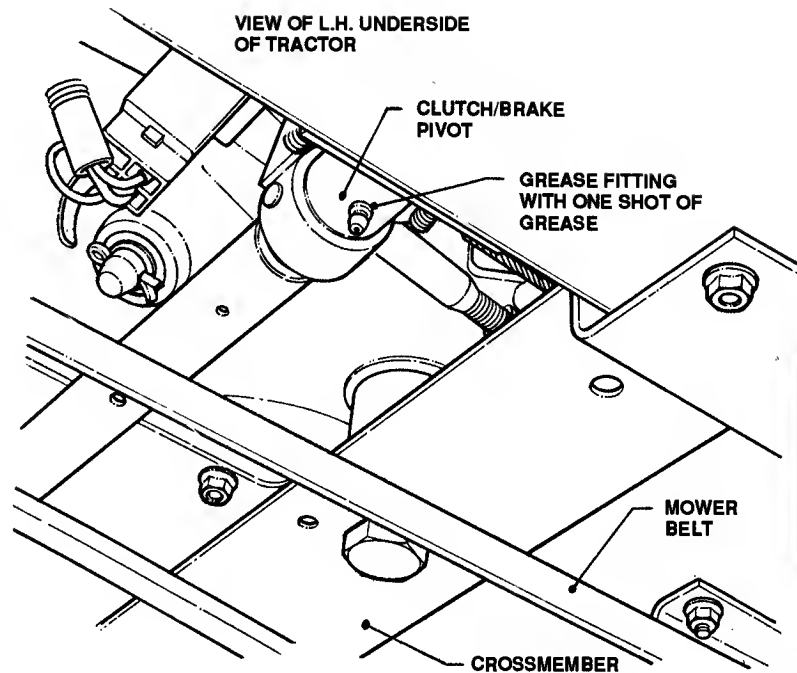

FIGURE 21
- **CLUTCH/BRAKE PIVOT:** Lubricate the Clutch/ Brake Pivot from L.H. underside of tractor. See Figure 21.